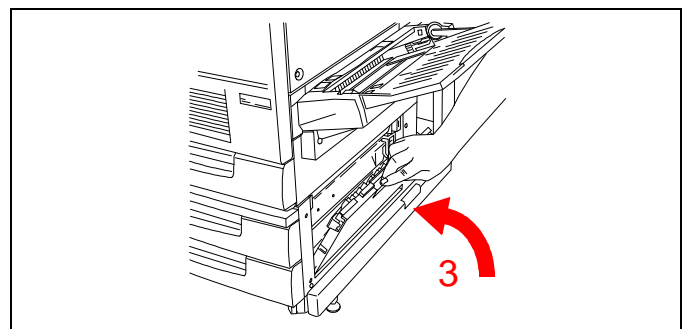

Figure 21
3. See Figure 21. Close the right cover of the 2-tray module.